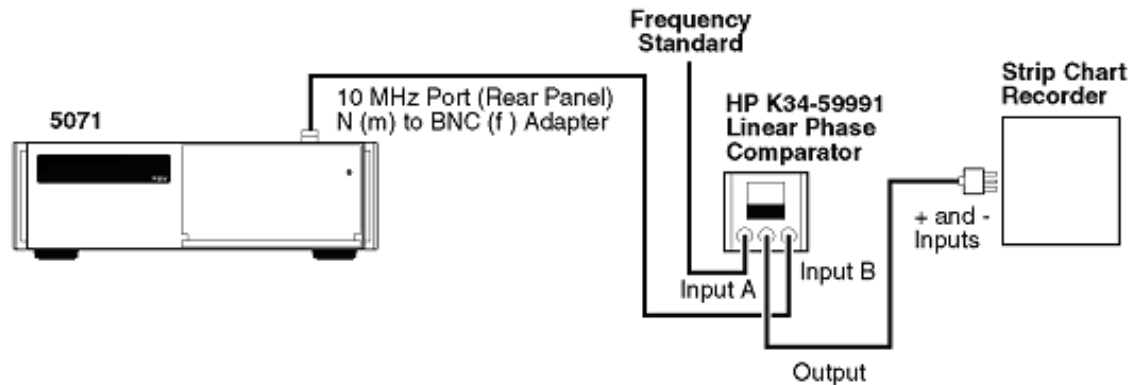

Figure A-7. Frequency Accuracy Test Setup
- 2 Connect the HP/Agilent K34-59991A Phase Comparator OUTPUT terminals to the strip chart recorder as shown in Figure A-7. Set the recorder for 1V full scale and 1 inch/hour, and turn on the recorder.
- 4 Connect the 10 MHz reference to INPUT A and the 5071A (unit under test) 10 MHz to INPUT B as shown in Figure A-7.